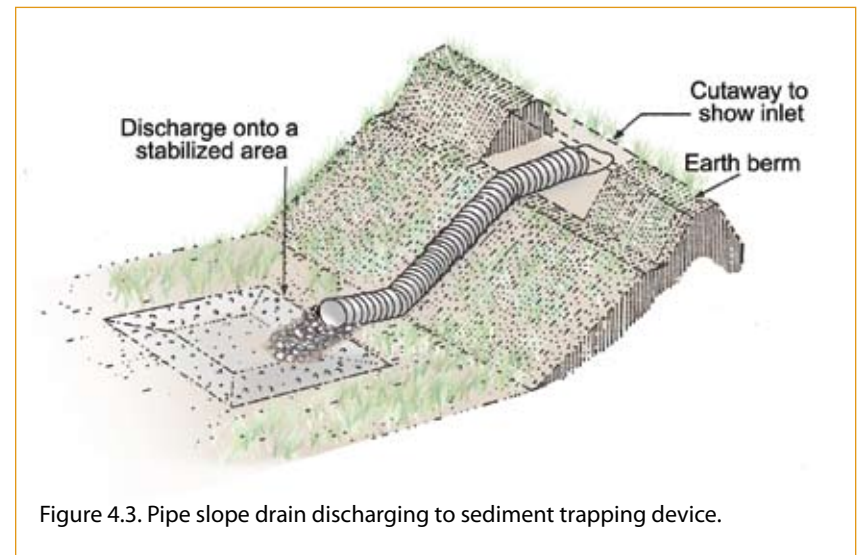

Figure 4.3. Pipe slope drain discharging to sediment trapping device.
- Direct flows along top of slope to inlet using earth berms or other diversion practice (Figure 4.3).